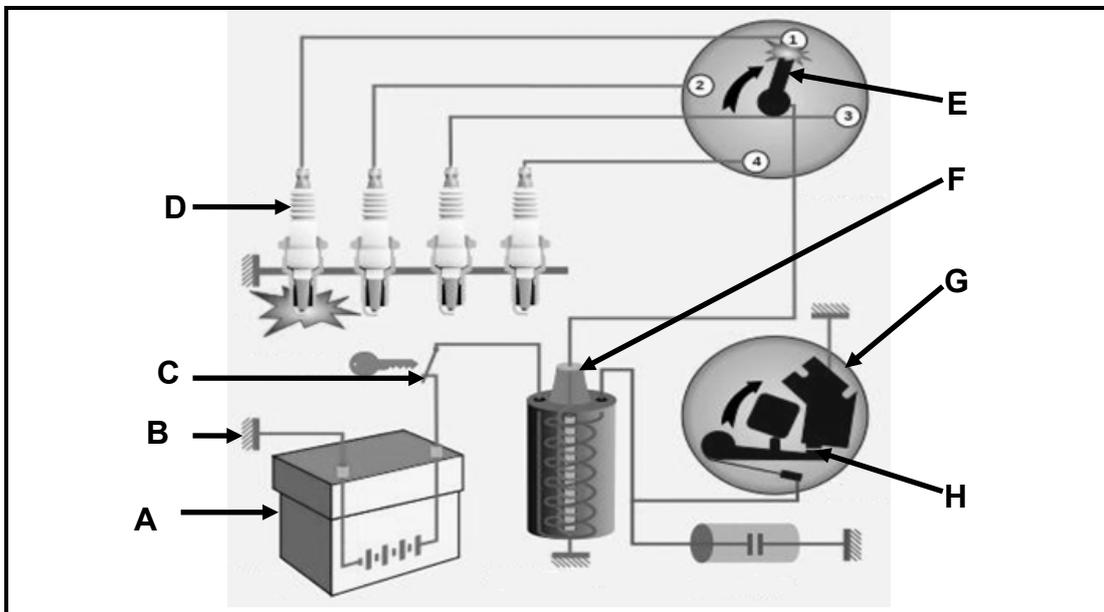

FIGURE 1.1: CONVENTIONAL IGNITION SYSTEM
- FIGURE 1.1 indicates a conventional ignition system. Answer the questions that follow.
1.1	Identify components A–H of the conventional ignition system shown in FIGURE 1.1.